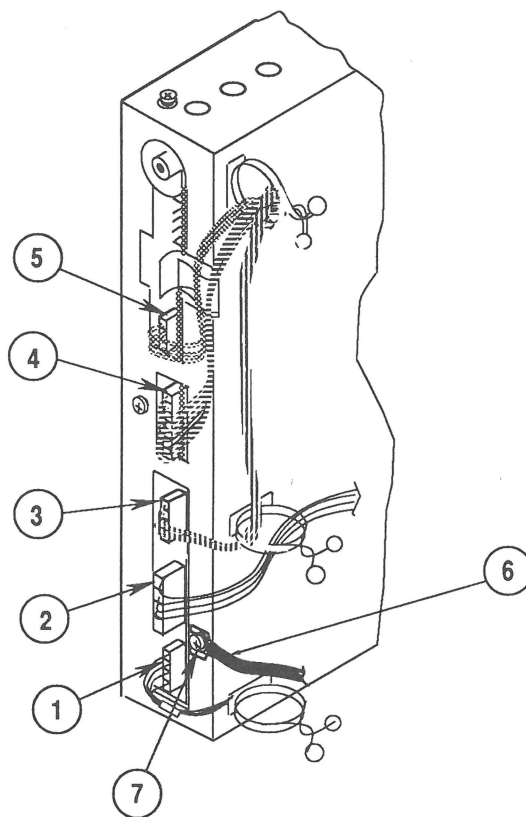

FIGURE 23
- **O** connector, 4-wire connector from the CRT board (Figure 23, #1)
- **K** connector, 3-wire connector from the CRT board (Figure 23, #2)
- **H** connector, 5-wire connector from the main deflection board (Figure 23, #3)
- **C** connector, 6-wire connector from the contrast brightness board (Figure 23, #4)
- **S** connector, 3-wire connector from the main deflection board (Figure 23, #5)
9. Replace the black ground cable (Figure 23, #6) on the video board case and tighten the screw (Figure 23, #7).